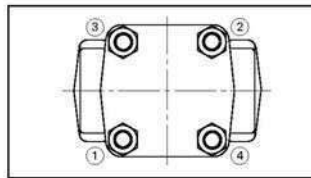

Figure 7.3B Bolt tightening sequence
- With bolts hand-tight, follow the bolt tightening sequence shown in Figure 7.3B. The sequence depends upon the number of bolts employed and the sketch shows only one possible tightening sequence. The bolts must be torqued to the recommended values shown in Table 7.3.